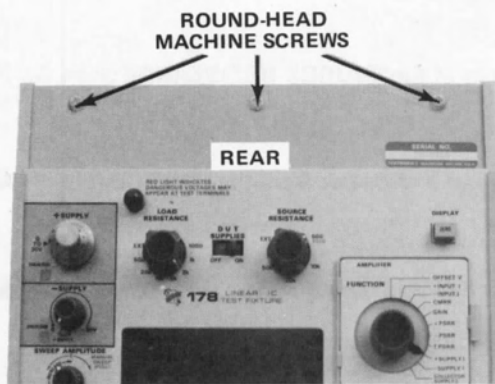

Fig. 4-4. Top view of the 178.
- c. Remove the three round-head machine screws from the top-rear of the instrument (Fig. 4-4).